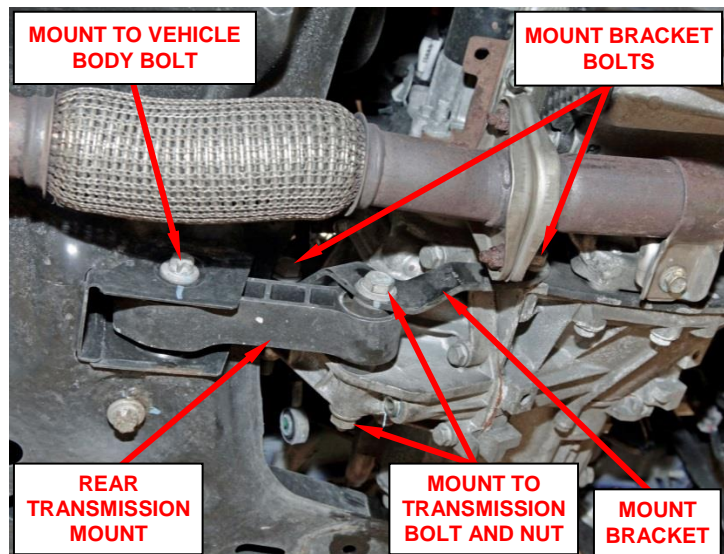

Figure 48 – Rear Transmission Mount
52. Loosen the bolt attaching the rear transmission mount to the vehicle body (Figure 48). Bolt does not need to be fully removed.
53. Remove the nut from the bolt attaching the rear transmission mount to the transmission (Figure 48). Bolt does not need to be fully removed.
54. Remove and save the two bolts attaching the rear transmission mount bracket to the transmission (Figure 48).
92. Rotate rear transmission mount and bracket assembly into position then install the two bolts attaching the rear transmission mount bracket to the transmission. Tighten the bolts to 80 N·m (59 ft. lbs.) (Figure 48).
93. Install the bolt and nut attaching the rear transmission mount to the transmission. Tighten the bolt to 80 N·m (59 ft. lbs.) (Figure 48).
94. Install the bolt attaching the rear transmission mount to the vehicle body. Tighten the bolt to 130 N·m (96 ft. lbs.) (Figure 48).